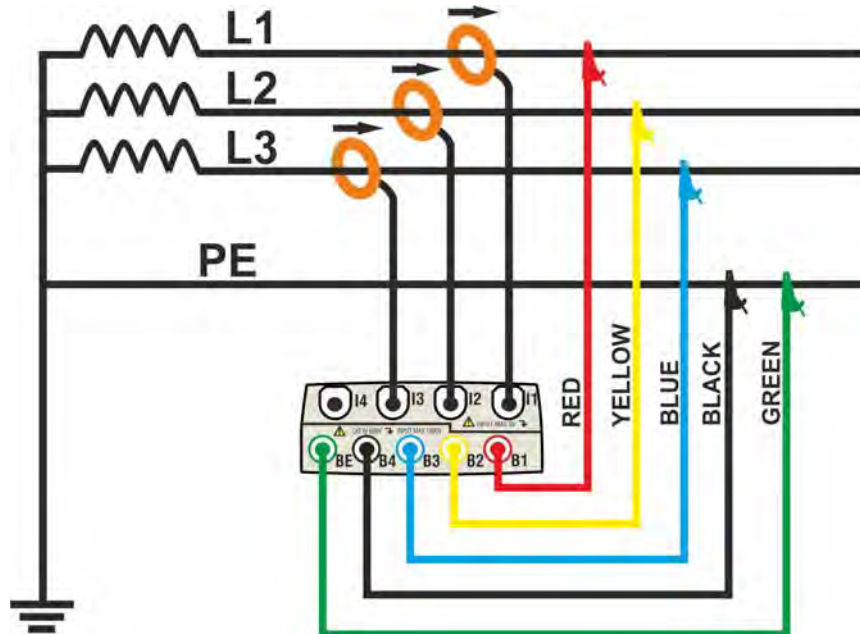

Fig. 119: Meter connection in a three phase 3-wire system – ENG\_UK type
2. Connect voltage test leads on Phases L1, L2, L3, and Ground cables respecting the colours as shown in Fig. 119. **Verify the result “123” at display relative to a correct phase sequence indication** (see § 5.2.1) and perform the corrections if necessary.
3. Connect the transducer current clamps on Phase L1, L2, L3 cables as shown in Fig. 119 respecting the clamp’s arrow direction indicating the current standard sequence from generator to load. **On Real Time Values’ section screens always verify the positive value of Active Power and the power factor relative to load which should be normally inductive** before starting a recording. Reverse the clamp by 180 degrees on cables in case of negative readings.